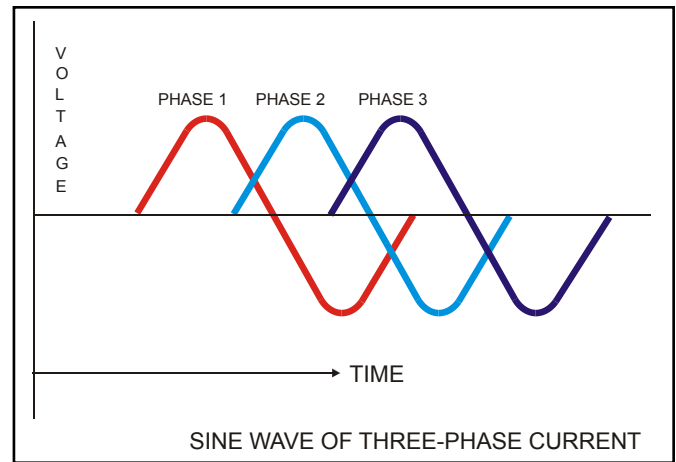

Figure 4 — Three phase power
**Three-phase** power (figure 4) is transmitted by three hot wires with one ground. It is more versatile than single-phase power and is commonly used in industrial and commercial applications. One reason for this is a three-phase motor